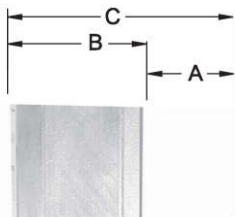

FIGURE 6
9. **New "Flush Style" Architectural Grille** – (See Figure 6) This new grille is an attractive extruded aluminum architectural grille that attaches to the outside face of the wall sleeve. The blades of this unique grille recess into the wall sleeve for a neat, "flush" appearance. Grilles install from the inside of the wall sleeve. Do not install the SPXC unit into the sleeve before installing the grille.